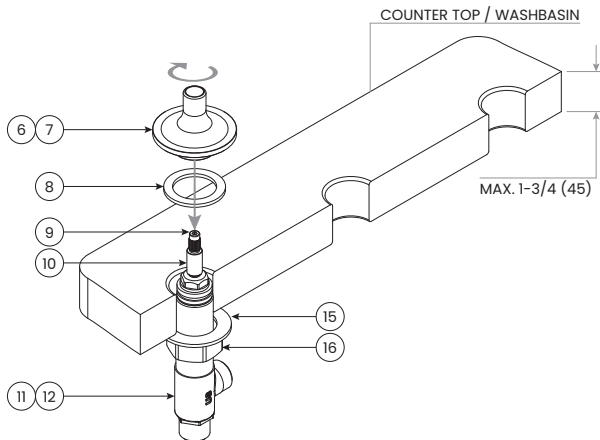

FIGURE 5.1
- 5.1 From underneath the counter top or washbasin, insert Deck Valve (11 or 12) up through the prepared hole (Figure 5.1).
- 5.2 Place Handle Base Gasket (8) around the exposed portion of the deck valve (Figure 5.1).
- 5.3 Screw down Handle Base (6 or 7) directly on to Deck Valve (11 or 12) (Figure 5.1).